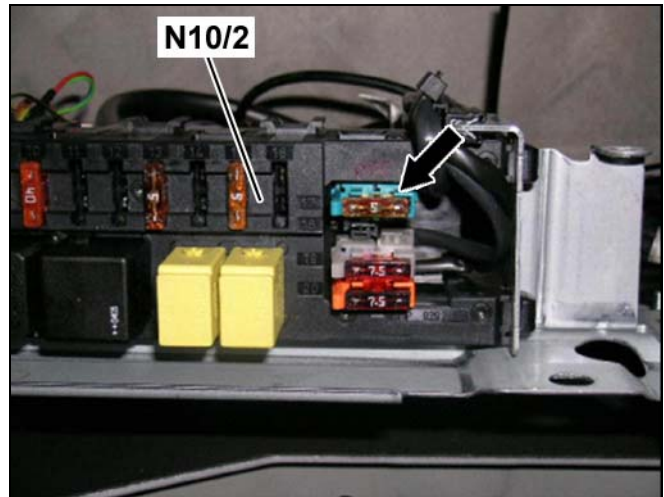

Figure 33
4. Check if the fuse (Arrow, Figure 33) in slot #17 of the rear SAM control unit with fuse and relay module (N10/2, Figure 33) is present.